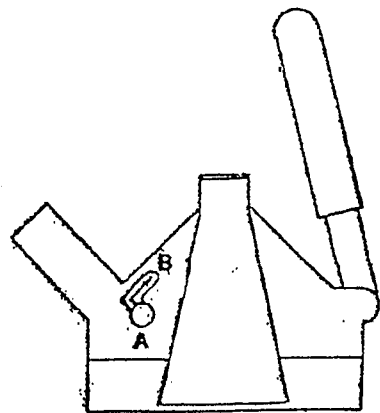

Fig 2 Locked
3. Finally lock the RIPS seat fitting into the track by pushing the red handle on the Millennium Fitting forward to its furthest point (see Fig 2). The red safety lock nut will automatically drop into position A in the slot. Repeat on all four fittings. The RIPS unit is now fixed and ready for use.
Pull out plunger and lift yellow latches on both sides of the RIP base (see Fig 2). This will free the seat support brackets of the seat cushion. Remove the seat cushion from the base.